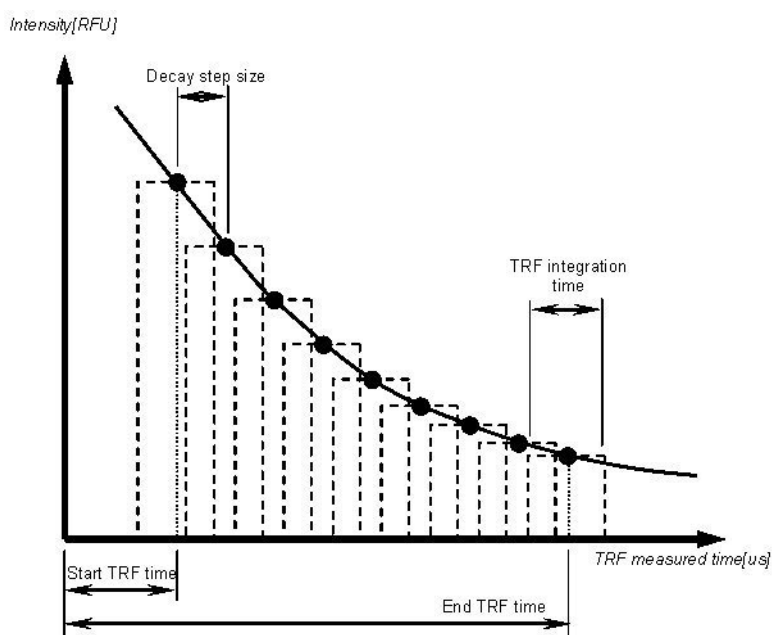

Figure 7-2. TRF decay definitions
- **Integration time [μs]** - Define the length of the measurement window, that is, the time the emitted signal is collected for each measurement cycle (see Figure 7-2).
- **Start time [μs]** - Define the time from the flash to the middle point of the first measurement (see Figure 7-2).
- **Stop time [μs]** - Define the time from the flash to the middle point of the last measurement (see Figure 7-2).
- **Step [μs]** - Define the time difference between two sequential middle points of the measurement (see Figure 7-2).